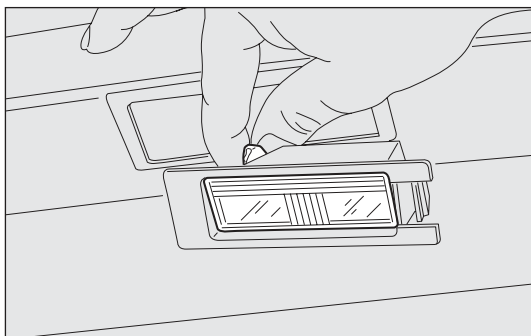

fig. 174
- ☐ change the bulb fig. 174 by releasing it from the side contacts and making sure the new bulb is correctly fastened between these contacts;